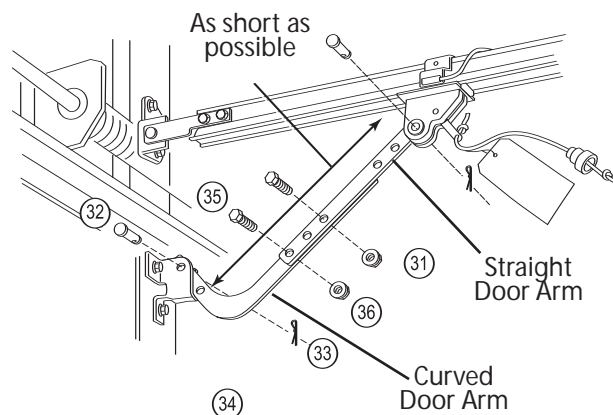

Figure 23A Assemble Arms (SECTIONAL)
- A** Attach Curved Door Arm to Door Bracket with Clevis Pin and Cotter Pin (**Figure 23A**).